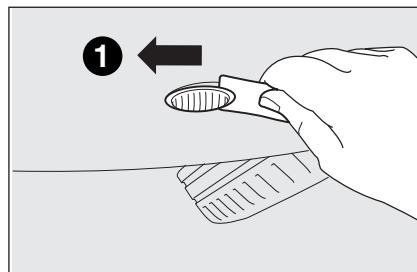

fig. 16a
- ☐ lever the lens off, by initially applying force from the front towards the back (**1-fig. 16a**);